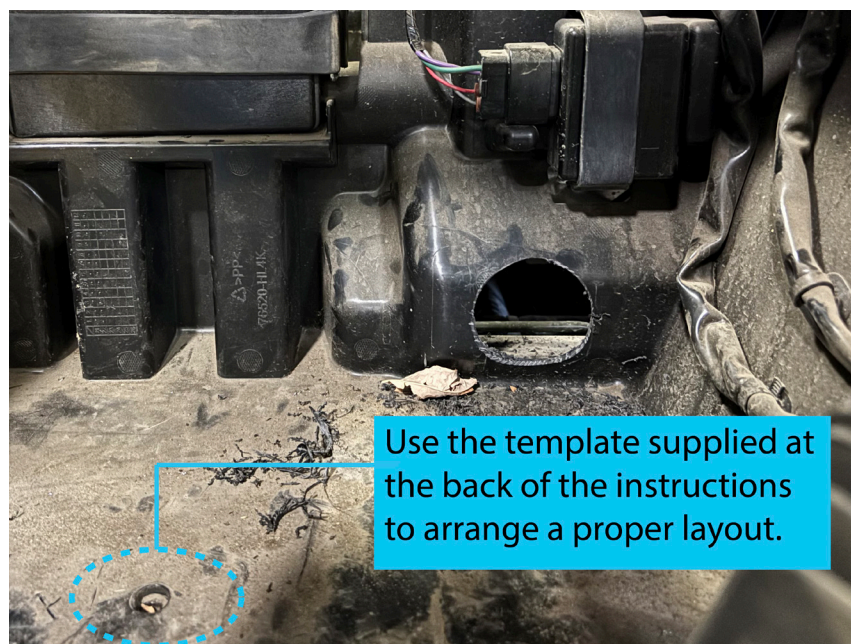

FIGURE 9
21. Place template over the screw hole on the bottom of the plate FIGURE 9